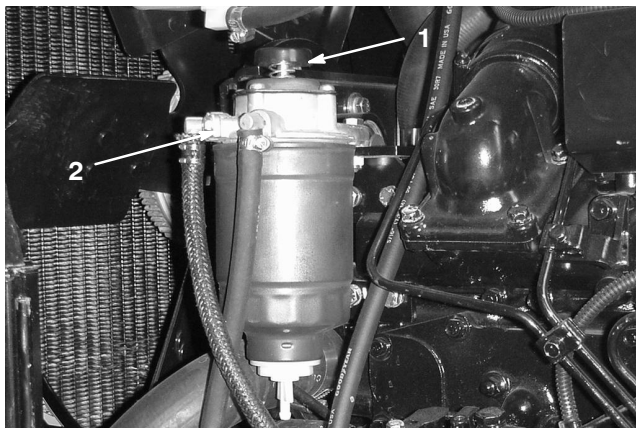

Figure 27
2. Rotate the priming pump (Fig. 27) counterclockwise until spring in pump assembly releases. Operate pump up and down until a solid stream of fuel flows out around filter plug and tighten plug.
3. Loosen the air vent plug on the fuel filter/water separator about 1-1/2 turns (Fig. 27). Operate priming pump until solid stream of fuel flows from the vent hole (Fig. 27), then tighten air vent plug.